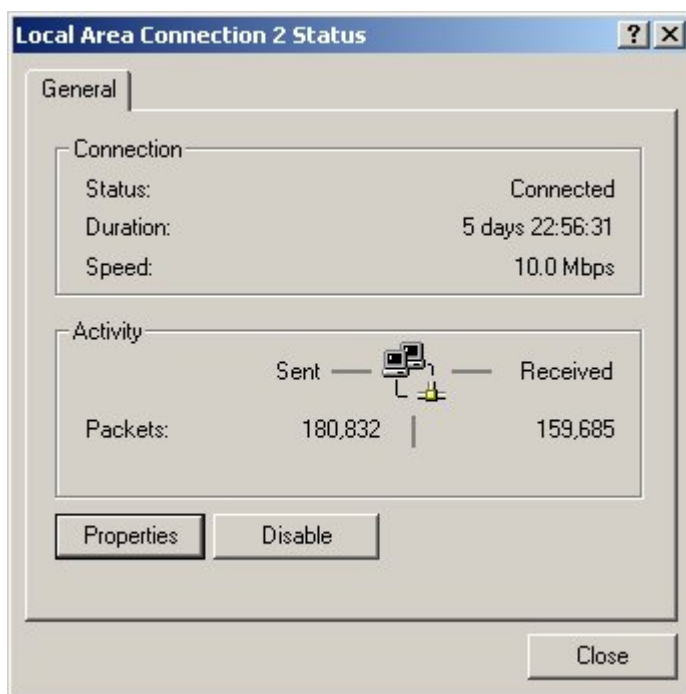

Figure 3.31. Local Area Connection 2 Status dialog box
3. To configure addresses for the private LAN connection (LAN 2), double-click the Local Area Connection 2 icon. The Local Area Connection 2 Status dialog box displays (Figure 3-31).